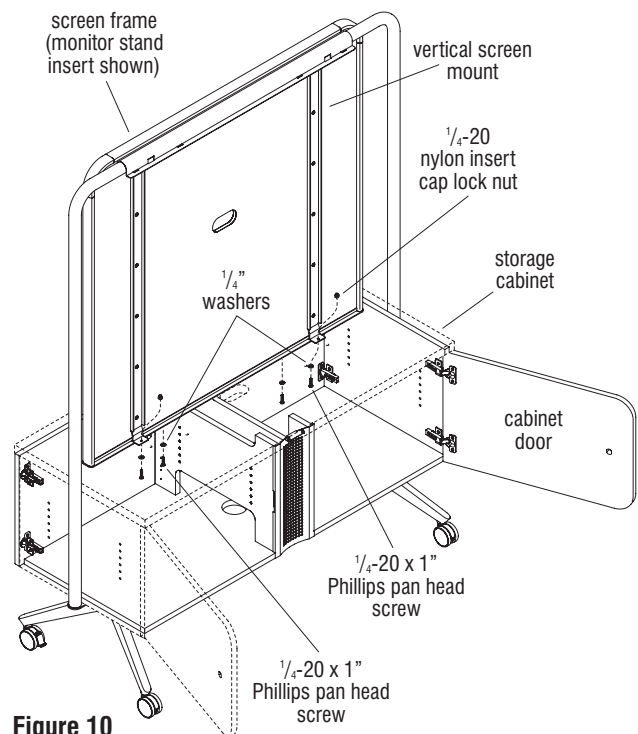

Figure 10
3. With the screen frame hooked onto the support connector, the bottom of the screen frame will be resting on top of the storage cabinet. Align the mounting holes at the bottom of each vertical screen mount over the mounting holes on the top of the cabinet. From inside the cabinet, at one vertical screen mount at a time, insert a $\frac{1}{4}$ -20 x 1" Phillips pan head screw and $\frac{1}{4}$ " washer into the aligned holes from inside the cabinet, then secure in place by twisting a $\frac{1}{4}$ -20 nylon insert cap lock nut. Hold the screw and tighten the nut. Repeat this step to secure the second vertical screen mount to the cabinet top (Figure 10 & Detail J).
then from inside the cabinet, insert each screw up the mounting hole and secure them into the underside of the screen frame to add additional support (Figure 10 & Detail J).